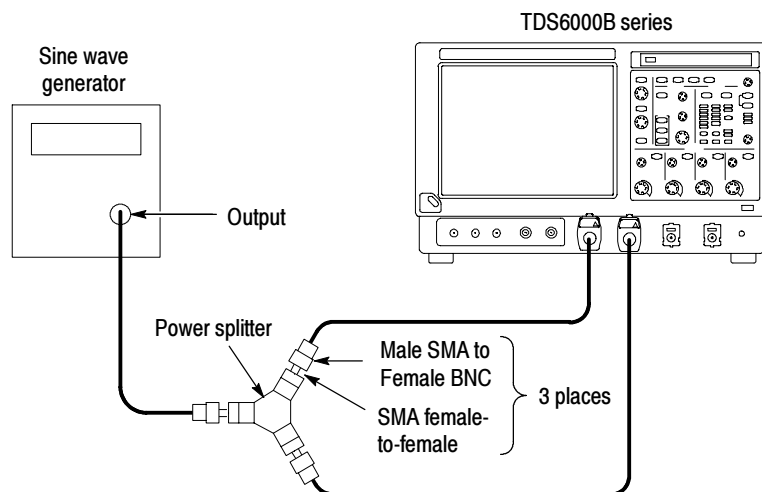

Figure 4-9: Initial test hookup
- Connect the power splitter to both **CH 1** and **CH 2**. See Figure 4-9.